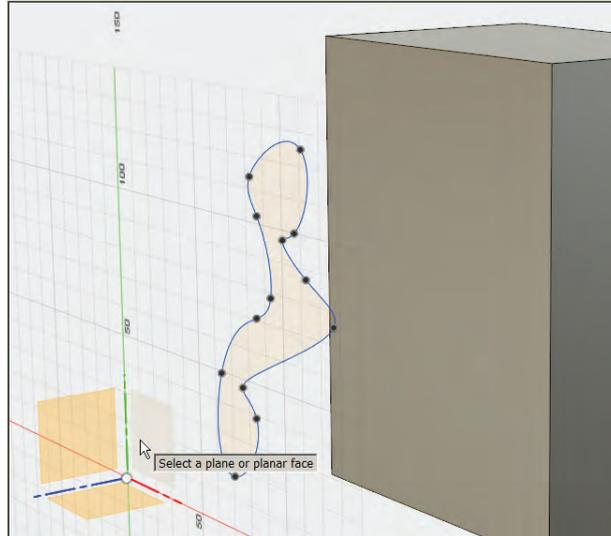

FIGURE 2-51: Click a vertical plane.
2. Click a vertical plane (Figure 2-51), either the vertical origin plane or the vertical face of the block. The sketch and block will orient to face you. Keep this orientation.